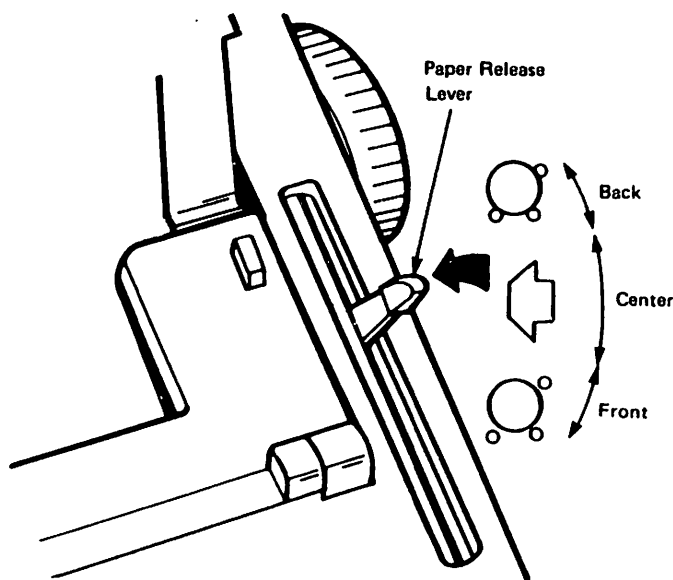

Figure 13 Paper release lever positions
1. Move the pressure bail away from the platen by positioning the paper release lever to the **CENTER** position (Figure 13).